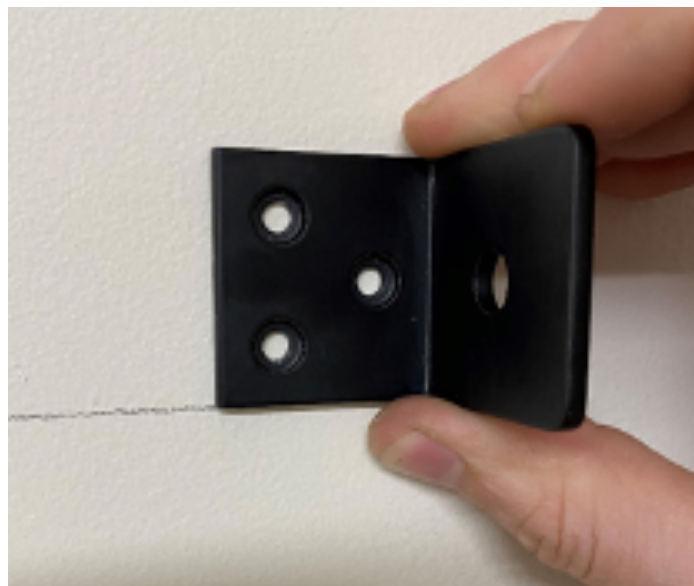

Figure 3 (right side)
8. Align the angle mounting bracket as shown in **Figure 3** to the line  $\frac{1}{8}$ " from the edge of the rail and screw to the wall using the same method as steps 5-6. The leg with the drywall screws should be covered by the rail after it is installed.